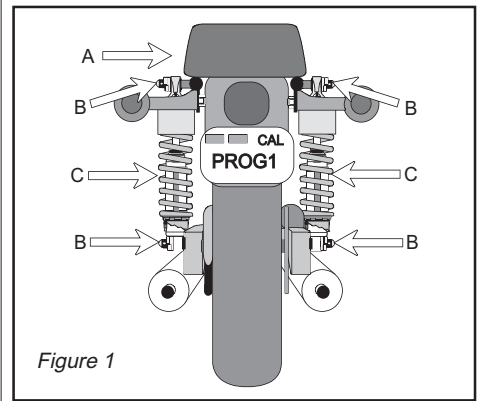

Figure 1
- Install one 14 series shock (without springs) and check clearance (#A in Fig. 1). Raise wheel into fender well until shock bottoms. There should be a minimum of 1" of clearance between the tire and fender.
- Now check clearances (B & C) in figure 1.